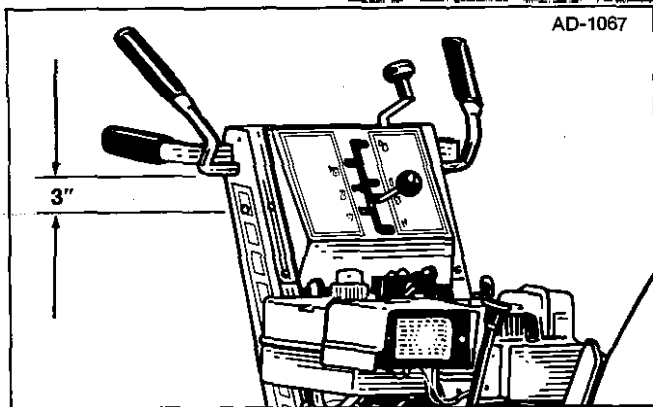

Figure 4.
1. Drill $13/32$ " hole in right-hand side channel, 3" below auger drive handle and centered (approx. $1-3/4$ "), as shown in figure 4.